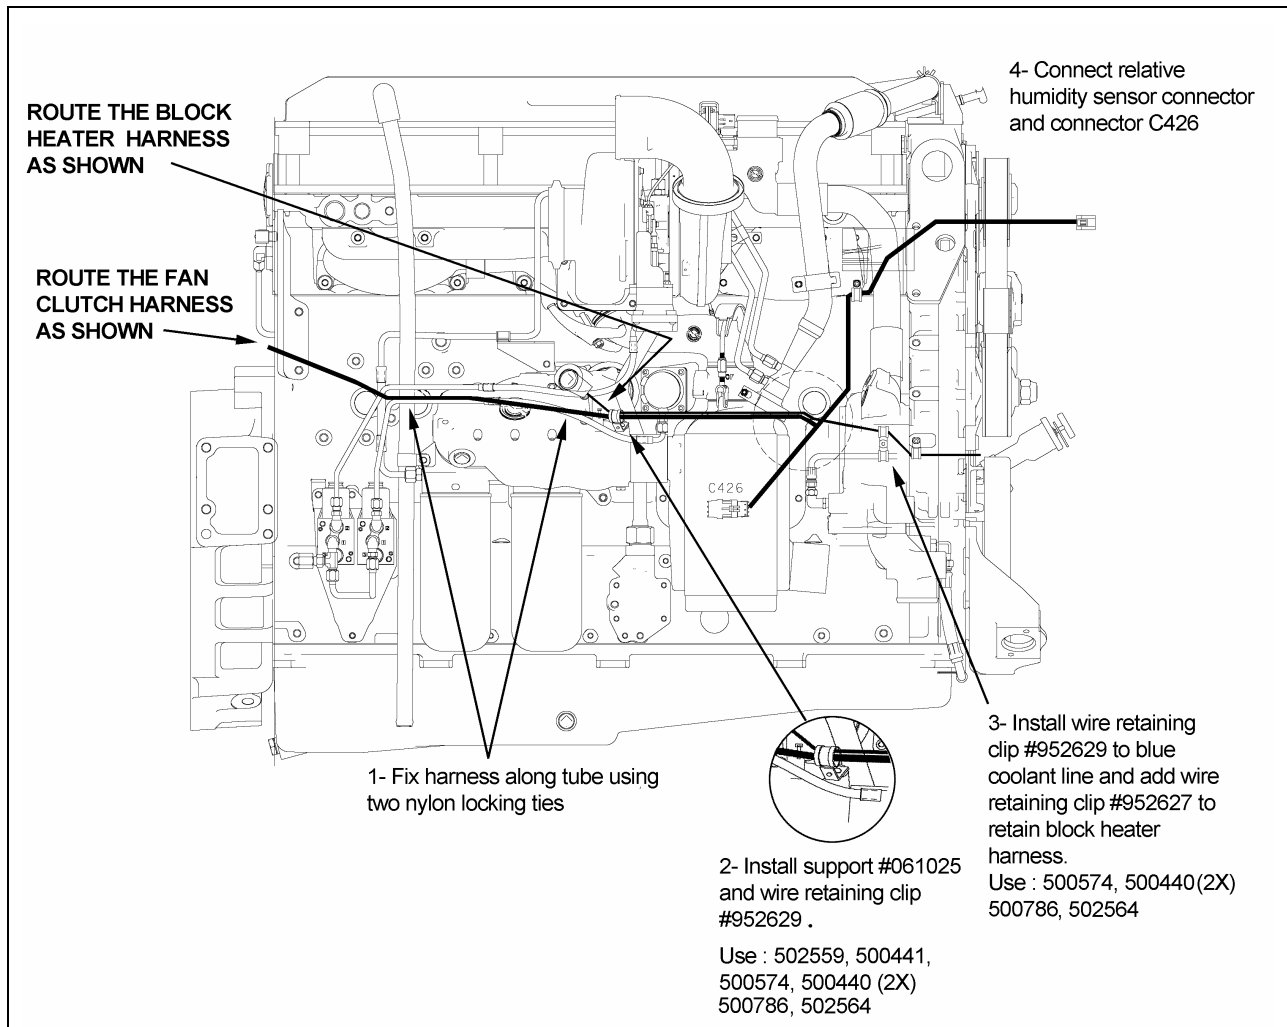

FIGURE 4: REROUTING THE HARNESSES
2. Reroute both harnesses as described in figure 4.